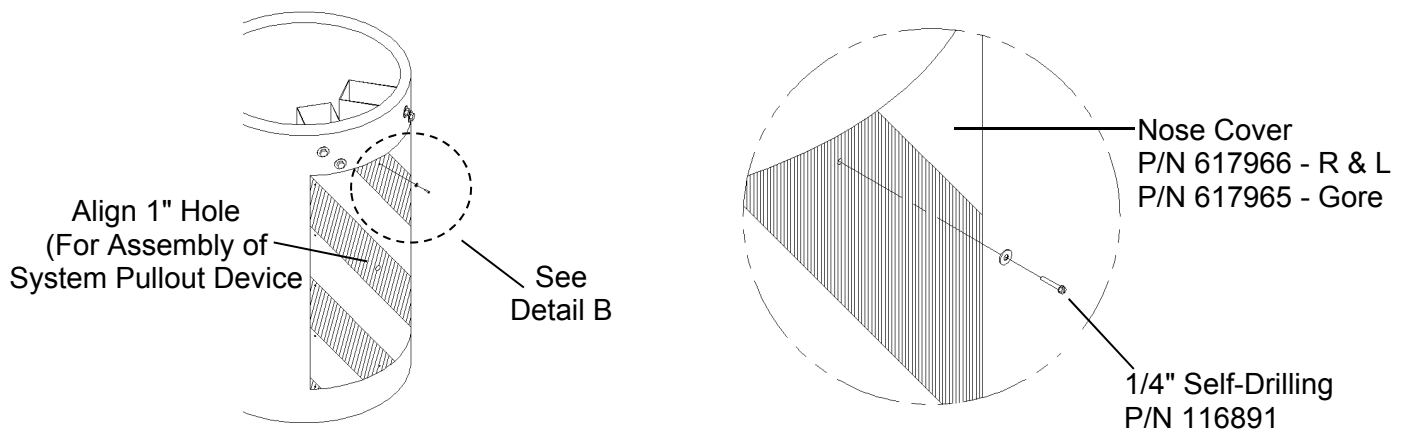

Figure 24 - Nose Cover Attachment
2. Align 1" diameter hole in Nose Cover with 1" diameter hole in Cylinder (See Figure 24).